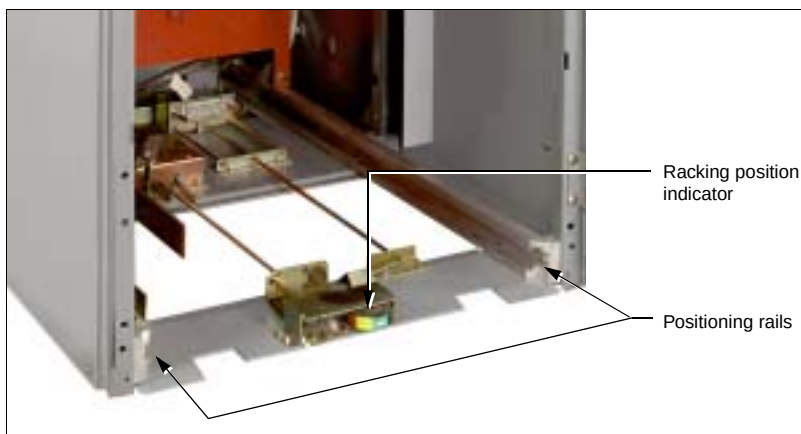

Figure 26: MASTERCLAD Switchgear Circuit Breaker Compartment
2. Verify that the racking position indicator (see Figure 26) reads “TEST/DISCONNECT”.
4. Align the G&T device rollers with the positioning rails (see Figure 26) mounted on the side walls of the circuit breaker compartment.